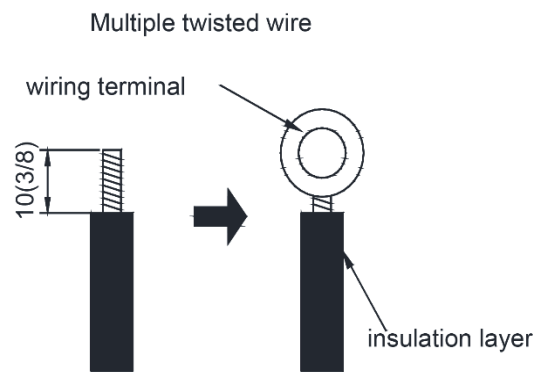

Fig 26
2. The connection of stranded wire (as shown in fig 26)